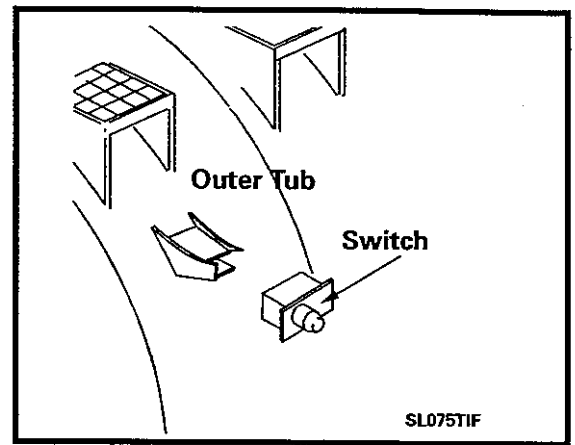

Figure 7-15
- The switch is located on the upper right hand side of the outer tub assembly, directly behind the right upper front suspension spring (*Figure 7-15*).